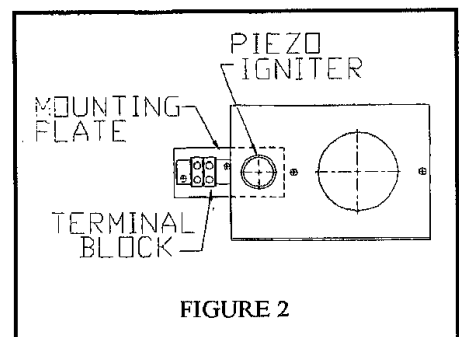

FIGURE 2
3) Once the igniter nut has been removed, it must be reinstalled with the terminal block plate (PLATE) and terminal block (BLOCK) in front of it. The BLOCK must be mounted to the PLATE using the 2 8-32 x3/8 Philips Pan Head Tap Screws, as shown in Figure 2. Slide this assembly onto the "tail" end of the Piezo, with the BLOCK facing forward. Then reinstall/tighten the nut. Now skip to step 5.